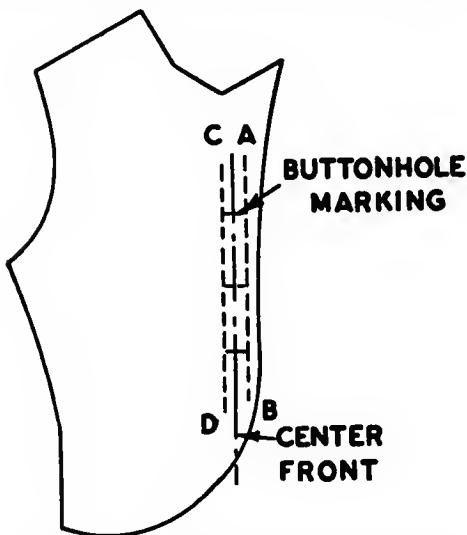

Fig. 165. Marking the buttonholes.
line with tiny stitches on the jacket front the entire length of the buttonhole sections, from A to B, Figure 165. This vertical row is  $\frac{1}{8}$  in. from the center front line toward the fabric edge unless the pattern indicates otherwise.
- F. After determining the length of the buttonhole, measure over the desired amount from A to B and make another vertical row C-D, Figure 165. These two parallel lines mark the ends of the buttonhole.